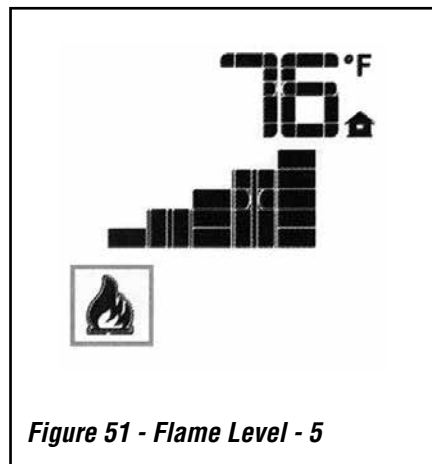

Figure 51 - Flame Level - 5
The system has six (6) flame levels. See **Figure 51** on **Page 37** for an example. With the system on, and the flame level at the maximum in the appliance, pressing the Down Arrow Key once will reduce the flame height by one step until the flame is turned OFF.